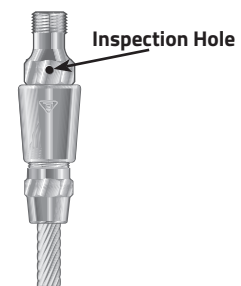

Figure 5
**STEP 8: Inspect for proper assembly.** (Figure 5) Prior to proof-loading, strands visible through the inspection hole are your assurance of a proper assembly. The end of the rope may not be visible in the inspection hole after proof-loading.